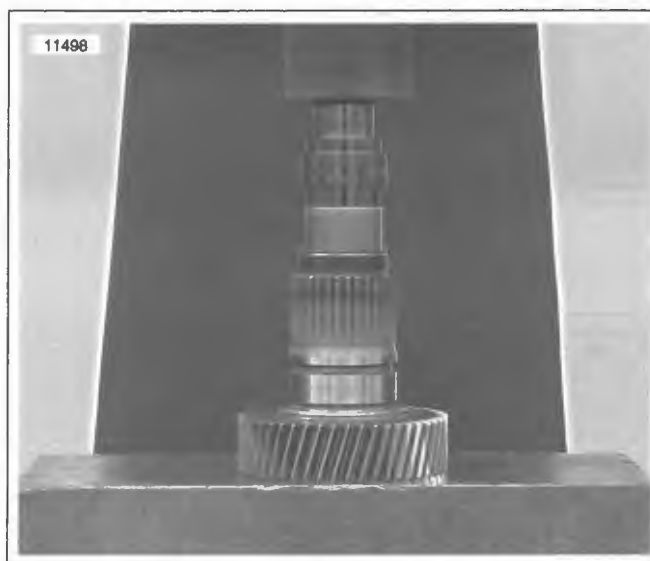

Figure 7-40. Installing Clutch Side Needle Bearing in Main Drive Gear
- See Figure 7-40. Install clutch side needle bearing using an arbor press and the 0.400 in. step end of tool as shown. Press until tool is flush.